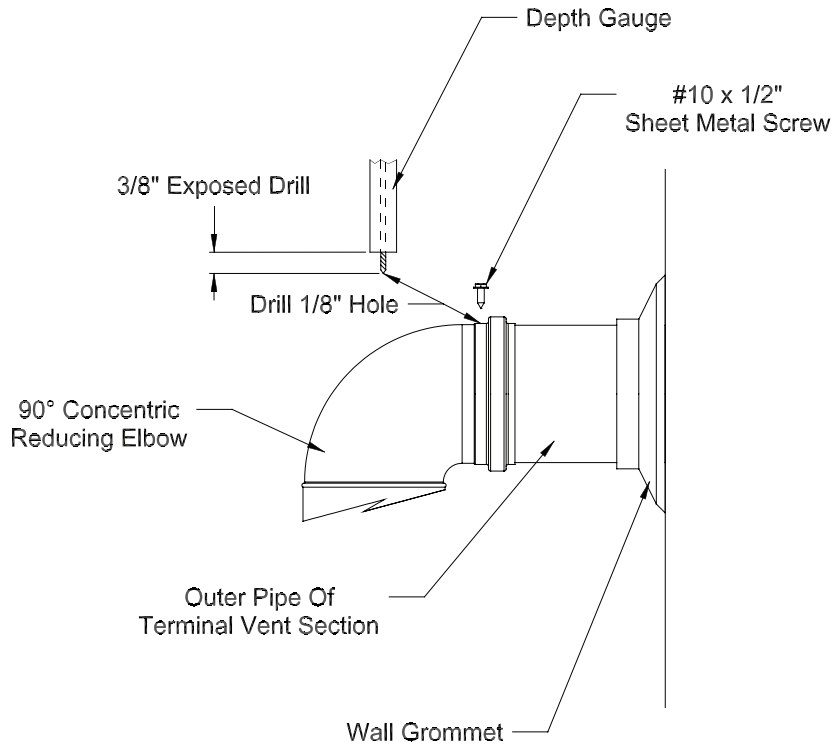

FIGURE 7.25: ATTACHING 60/100mm TERMINAL SECTION
- i) The terminal section must be attached to the elbow with a single #10 x 1/2" sheet metal screw (not supplied) at the top of the elbow. Drill a 1/8" hole in the location shown in Figure 7.25. **Use a short drill bit or a drill stop to ensure that the drill bit does not penetrate the pipe by more than 3/8"**. Install a #10 x 1/2" screw in this hole. **Do not use a screw longer than 1/2" long.**